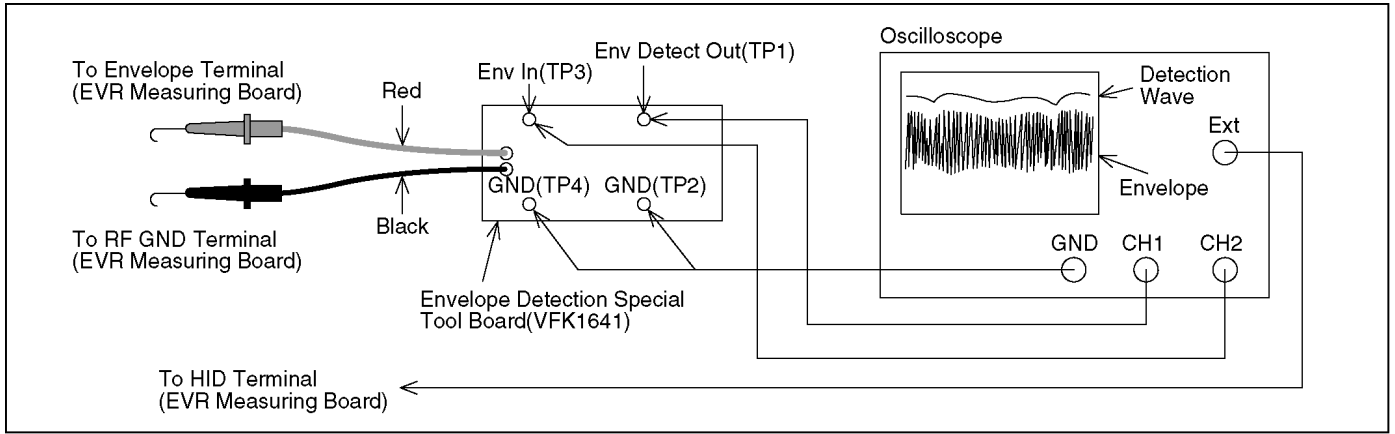

Fig. D2
3. The envelope detection special tool board (VFK1641) is connected to EVR adjustment board as shown in Fig. D2.
4. The envelope detection special tool board is connected to oscilloscope as shown in Fig. D2.